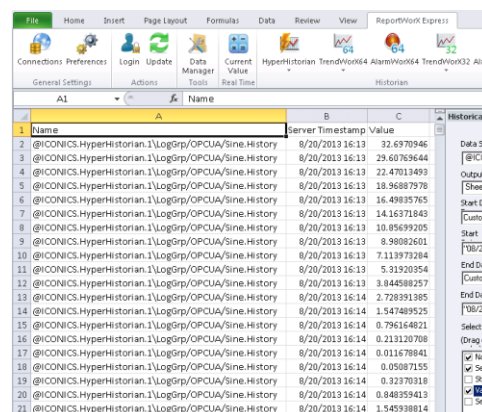

Figure 4 - Historian Raw Values
8. To view report data in the selected output range of the Microsoft Excel spreadsheet, update the report: . Your results should look like Figure 4.